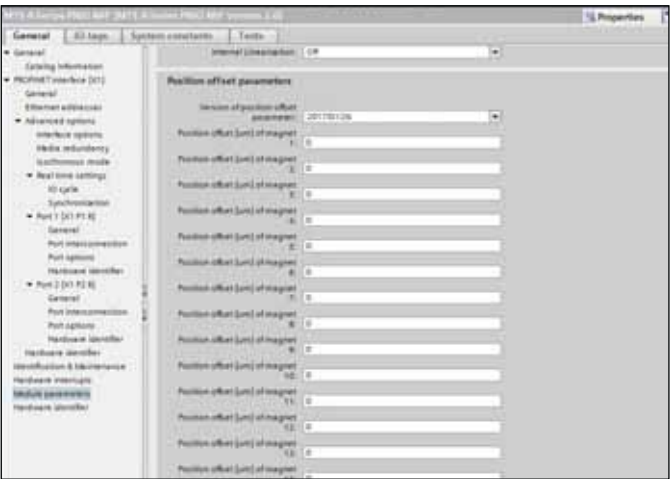

Fig. 64: Setting of the offset
- Offset:** In the subsection “Position offset parameters” you can set the offset, a shift of the measurement range start, separately for each magnet – independent of further magnets on the sensor rod/sensor profile (Fig. 64). You can set the values with a step size of 1 µm in the range between -214...+214 m.